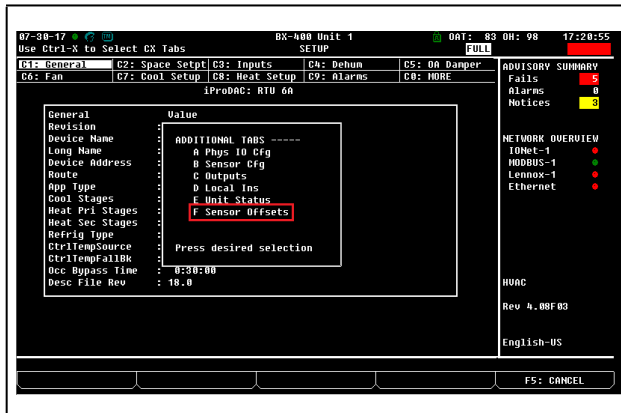

Figure 7-8 - iProDAC Setup Screen in E2 - Ctrl + 0 Tab Menu Sensor Offsets
- Press **F5** **SETUP** to access the iProDAC **Setup** screen (Figure 7-8).